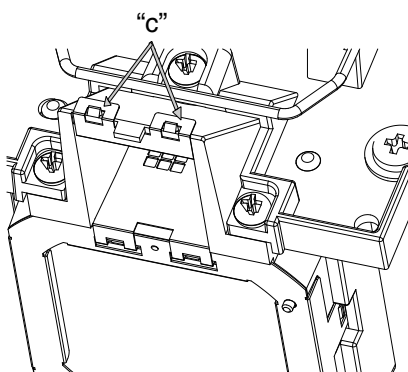

Figure 5
- 3 As shown in Figure 5, make sure that the lamp attachment is coupled with the clasp of the lamp unit
- 4 Bend the “c” section of the lamp attachment (see Figure 5) by pressing it in the direction of the lamp unit